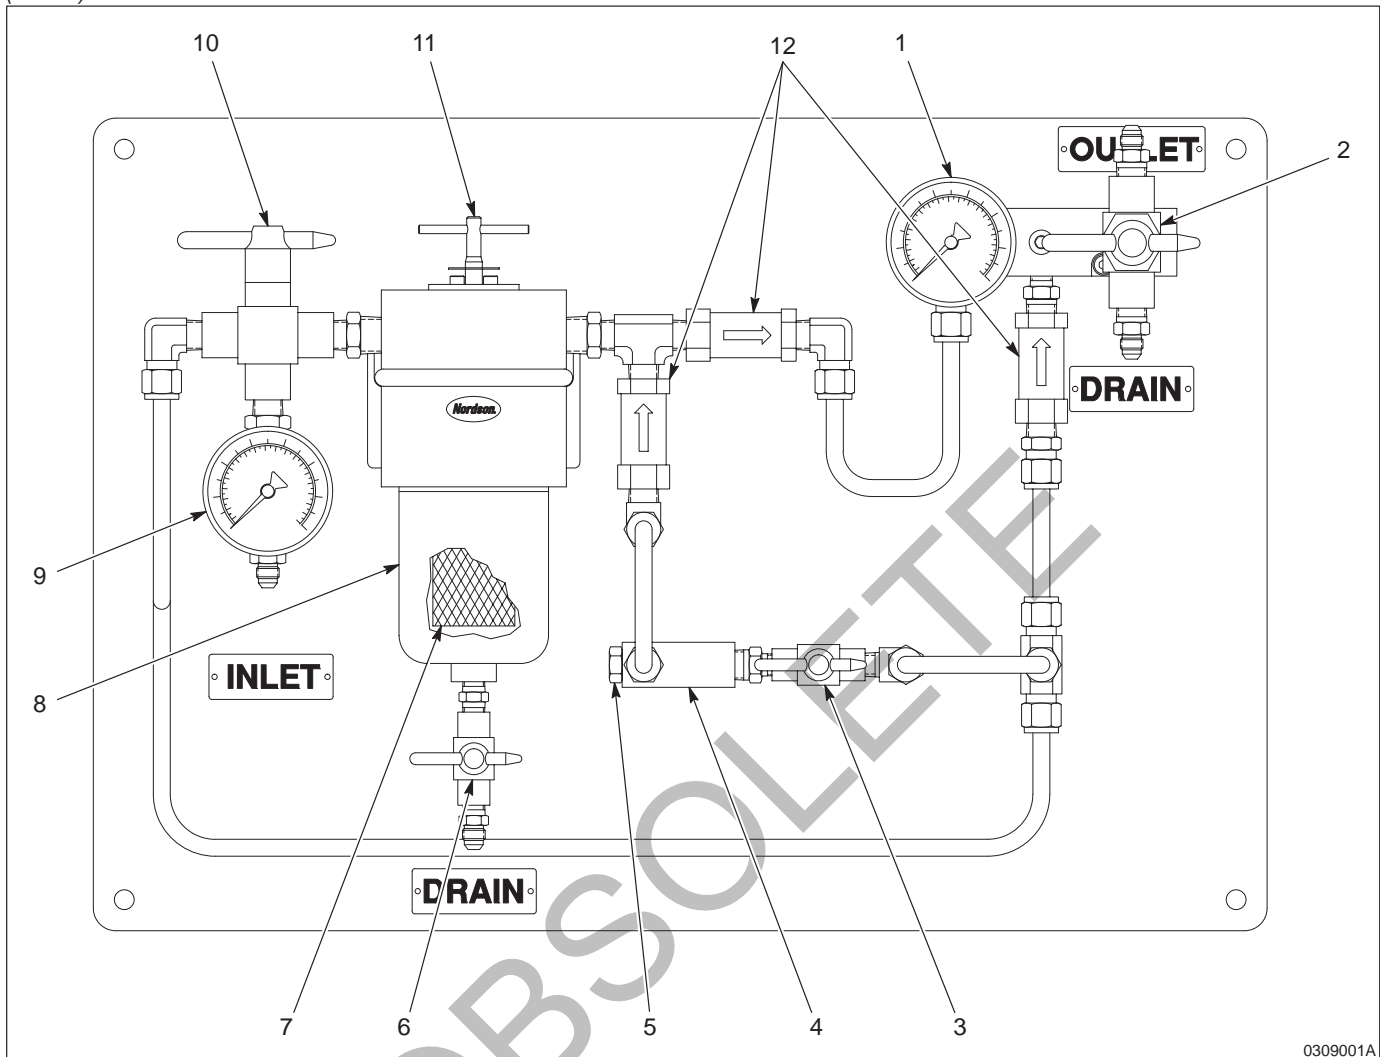

Fig. 1 EasyClean filter assembly components
See Figure 1, which shows the EasyClean filter assembly as it is configured on its panel. The EasyClean filter assembly can be divided into four main sections:
See Figure 1. In normal operating conditions, fluid flows through your fluid supply plumbing and into the fluid inlet where its pressure is measured by the filter inlet gauge (9). Fluid passes through the filter inlet valve (10) and into the filter housing.
4. Place the valves in the positions designated in Table 2. Table 2 shows the steps to follow for flushing and the required position of the valves for each step. See Figure 1 for valve locations.
5. Place the valves in the positions designated in Table 3. Table 3 shows the steps to follow for flushing and the required position of the valves for each step. See Figure 1 for valve locations.